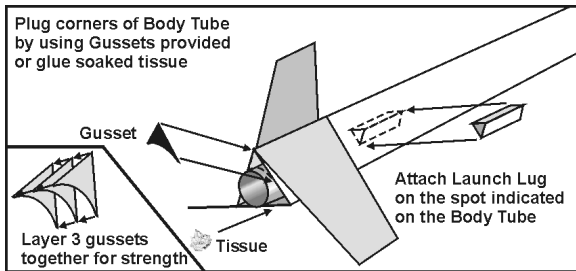

Figure 15
16. Spread a film of glue to the bottom of the Launch Lug and glue onto the Body Tube on the indicated spot and as shown in **Figure 15**. Also, plug the 3 corner holes (voids) around the Engine Tube using the **Gusset** pattern provided or using small pieces of glue soaked tissue paper. All voids must be completely blocked.